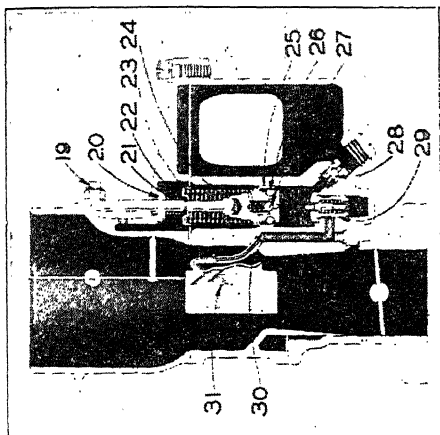

Fig. 45
**Accelerating Pump.** For smooth rapid acceleration and flexibility, it is necessary to supply momentarily an extra amount of gas when the throttle is opened. On the up stroke of piston 25, Fig. 45, gas is drawn through the inlet check valve 28, into the pump cylinder. On the down stroke the compression closes the check valve 28 and forces open economizer valve 29. The fuel is then discharged through the pump discharge nozzle 31, into the carburetor barrel. When the throttle is opened part way, only a small amount of fuel is discharged. However, when the throttle is continuously held fully opened, gas flows steadily through the restriction. This gives the richer mixture that is required for maximum power.